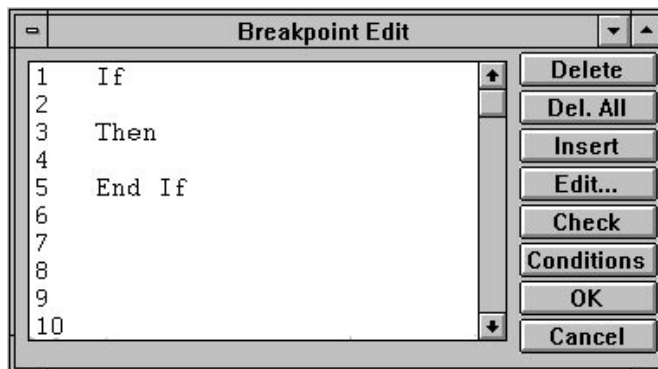

Figure 6-4. Breakpoint Edit Window
4. If you want the simulator to stop when it detects the bus breakpoint condition, click on the **OK** button. If you want to create a more complex breakpoint program, click on the **Edit** button to invoke the **Breakpoint Edit** window (Figure 6-4). The **Programming Process** section below describes how to use this window. Click on the **Cancel** button to delete the breakpoint setups.